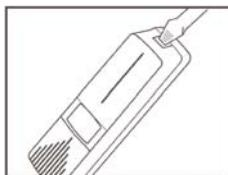
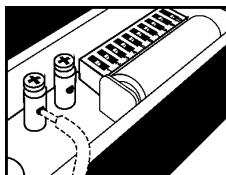

Figure 1
Figure 2
- Remove doorbell button cover by inserting a small screwdriver into the slot at the bottom of the doorbell button and twisting slightly. (Figure 1)
- Remove new Doorbell button's cover by inserting a small screwdriver into the slot at the bottom of the Doorbell button and twisting slightly. (Figure 1)
- Attach wires to terminals (posts) on Doorbell button circuit board (Figure 2). Thread a short length of bare copper into the hole in one terminal. Secure with screw atop terminal. Repeat with remaining wire. Attach either wire to either terminal.
- To access the channel adjustments on the doorbell button, remove the cover of the doorbell button by depressing the small latch at the bottom (Figure 1.) Find the dip switches inside and change the position of one or more of the switches **numbered 1 through 7**.
- To change to the other tone, remove the cover of the doorbell button (Figure 1), and reverse the positions of Dip switches 9 and 10 (Figure 2).